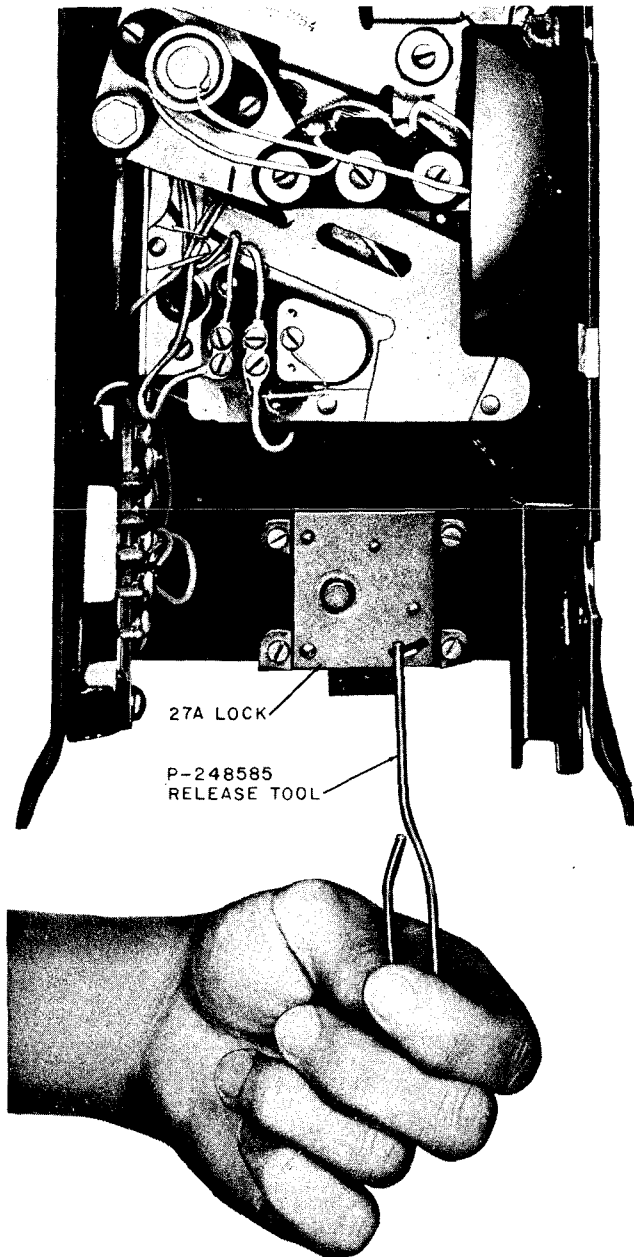

Fig. 9—27A Lock Mounted in Upper Housing Showing Use of P-248585 Release Tool
3.04 The 27-type is similar to the 10-type except it is equipped with a key trapping feature (called a key snatcher). When a key is turned in this lock, the key snatcher grabs it and a P-248585 release tool is required to remove the key (Fig. 9). The release tool is ordered in the same manner as a key.